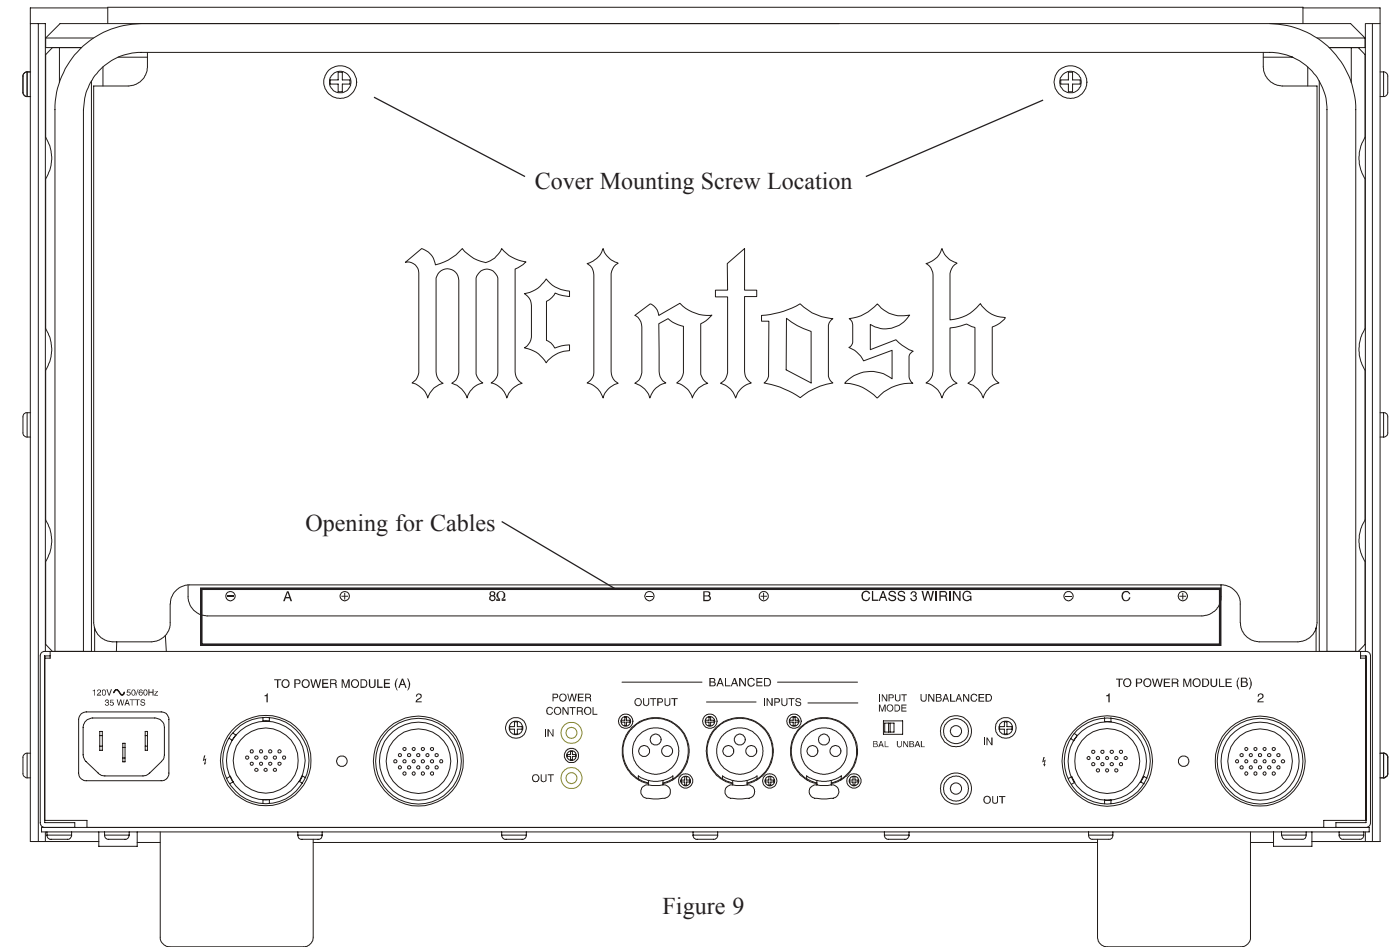

Figure 9
- Using the supplied “T” shaped tool, remove the two screws from the Rear Cover on the MC2KW Output Module and remove the cover. Place the cover and screws in a safe location. Refer to figures 9 and 10.
Note: The MC2KW Output Module Removable Covers consist of a Rear piece and Top piece. In certain installations the removal of the Top Cover in addition to the Rear Cover might provide easier access to the Output Connection Terminals, refer to figures 9, 10 and 11.
- Re-attach the previously removed Cover(s) making sure to route the Loudspeaker Cables between the top of the Stainless Steel Chassis and underneath the bottom Rear Cover. Refer to figure 9.